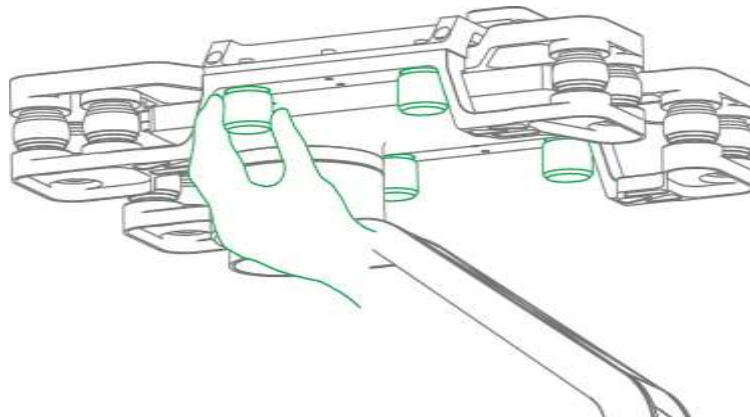

Figure 5-7
Step 1 Loosen 4 mounting screws, as shown in Figure 5-7.